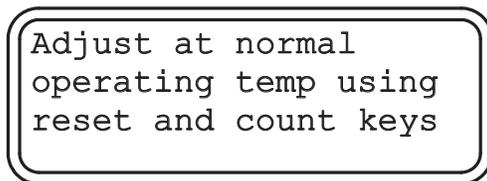
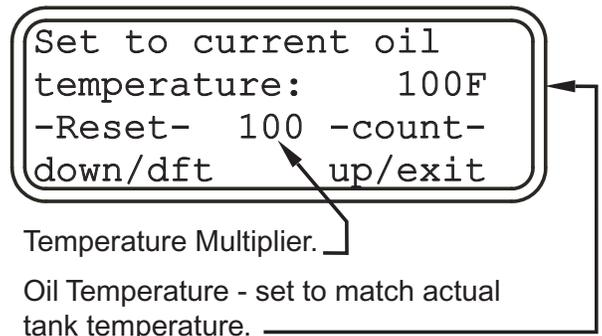

Figure 23 - Temperature Calibration Instructions
Figure 24 - Temperature Calibration
- Temp Calibration Instructions (see Figure 23)
- Temp Calibration Screen (see Figure 24)
The temperature calibration instruction screen (see Figure 23 ) will display for 3 seconds when selected then change to the temperature calibration screen (see Figure 24).
Lowering the temperature multiplier number (see Figure 24) will lower the temperature reading on your monitor. Pressing RESET quickly will lower the temperature multiplier number. Pressing and holding down on RESET will return the temperature multiplier number to default.